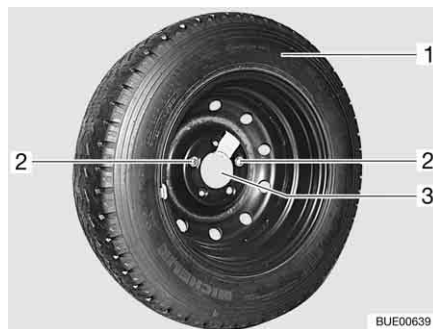

Fig. 240 Spare wheel support in the rear garage
- Loosen and remove both fixing screws (Fig. 240,2) with the on-board tool set.
- Remove the spare wheel (Fig. 240,1) from the support (Fig. 240,3).